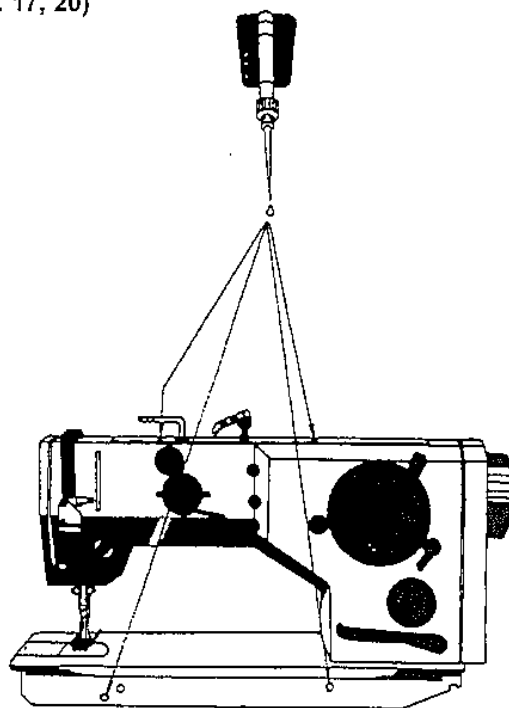

Fig. 1
5. To clean and lubricate the machine (Fig. 1; Tabs. 17, 20)